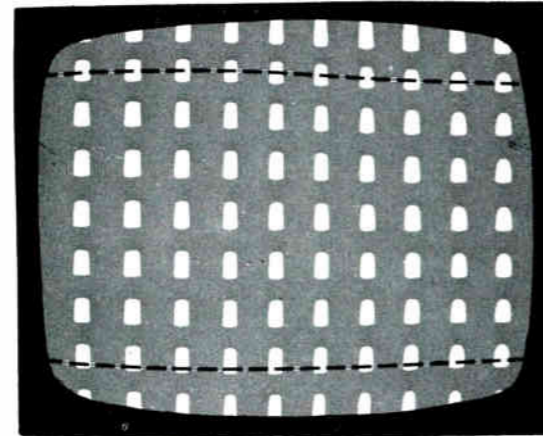

FIGURE 1-26A
- ( ) Turn the TOP-BOTTOM PINCUSHION control fully clockwise. Note that there is a slight bow or tilt in the top horizontal row of dots. See Figure 1-26A.